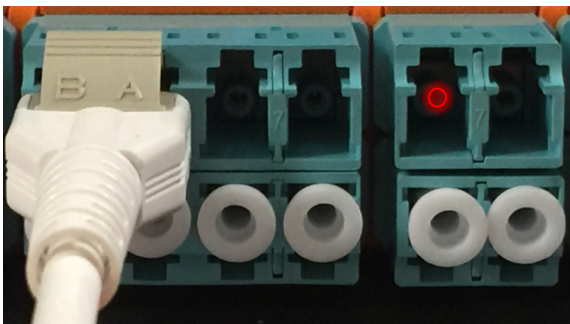

Figure 8: Red Light Passing to the First LC Connector
**NOTE:** Use the Camera application on your mobile device to verify active connections are working. Never look at the laser light with the naked eye. When the link is up on the device X, the first LC connector that monitors the link will show red as shown in Figure 8: Red Light Passing to the First LC Connector. The example shown here is using 10G MM, which is in the visible light spectrum. Higher bandwidths will not be seen with the naked eye.